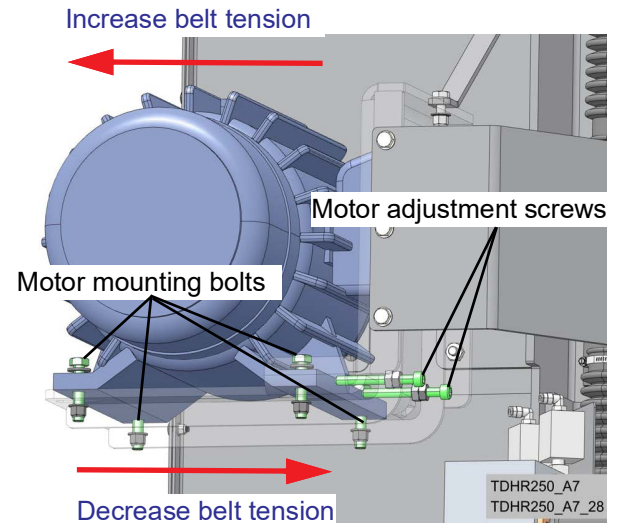

FIG. 6-2
1. Loosen (4) motor mounting bolts.
6. Tighten (4) motor mounting bolts when proper belt tension has been measured. See FIG. 6-2